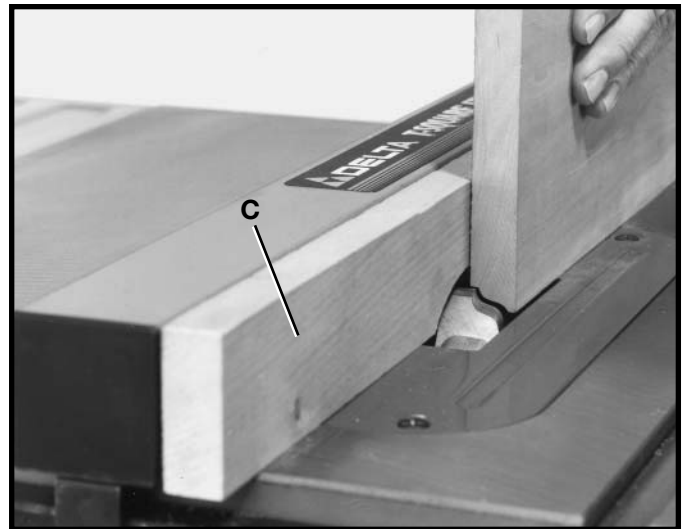

Fig. 53
It is necessary when using the moulding cutterhead to add wood-facing (C) to one or both sides of the rip fence, as shown in Fig. 53. The wood-facing is attached to the fence with wood screws through the holes provided in the fence. 3/4 inch stock is suitable for most work although an occasional job may require 1 inch facing.
Position the wood-facing over the cutterhead with the cutterhead below the surface of the table. Turn the saw on and raise the cutterhead. The cutterhead will cut its own groove in the wood-facing. Fig. 53, shows a typical moulding operation. **NEVER USE MOULDING CUTTERHEAD IN A BEVEL POSITION.**